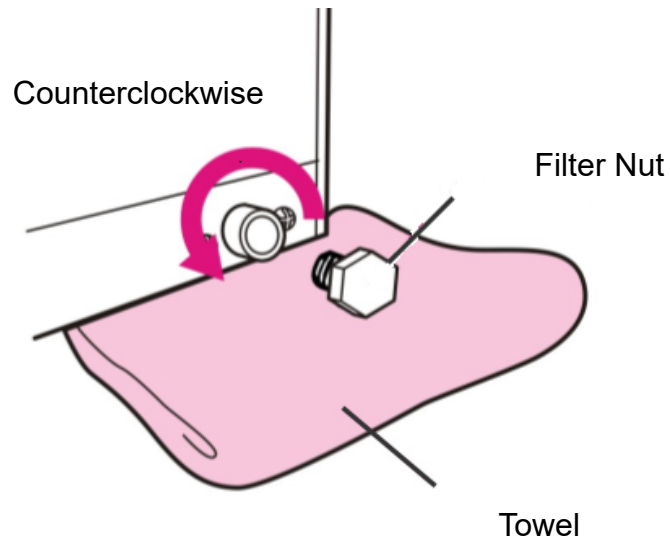
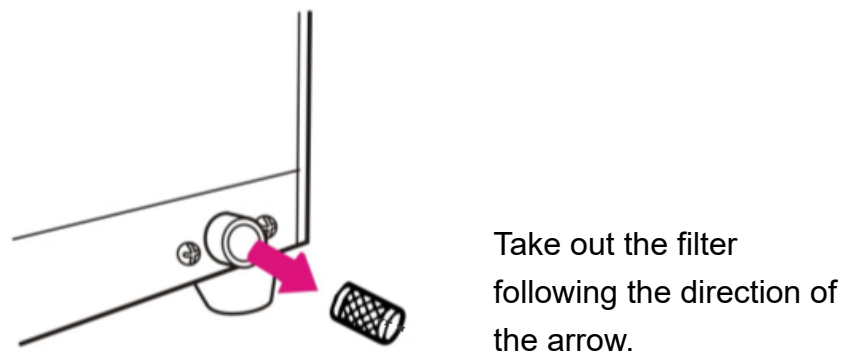

Figure 48
Figure 49
- Use a wrench to unscrew the filter nut counterclockwise as Figure 48 & Figure 49.